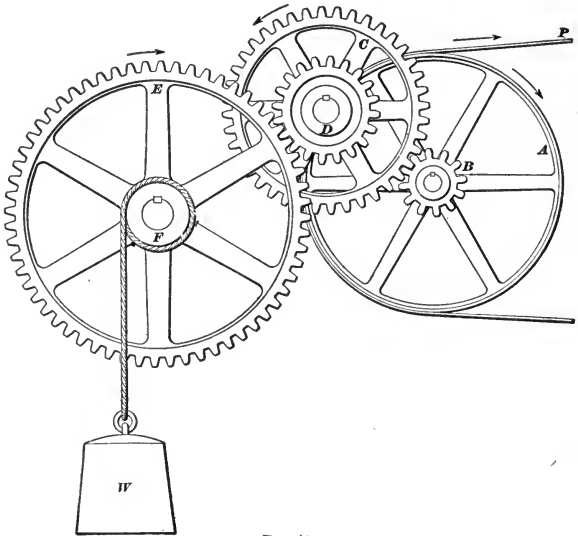

FIG. 19.
**39.** A combination of wheels and axles, as in Fig. 19, is called a train. The wheel in a train to which motion is imparted from a wheel on another shaft, by such means as a belt or gearing, is called the **driven wheel** or **follower**; the wheel that imparts the motion is called the **driver**.
EXAMPLE.—If the radius of the pulley *A*, Fig. 19, is 20 inches, of *C* 15 inches, and of *E* 24 inches, and the radius of the drum *F* is 4 inches, of the pinion *D* 5 inches, and of the pinion *B* 4 inches, how great a weight will a force of 1 pound applied at *P* raise?
EXAMPLE.—The radius of the pulley  $A$ , Fig. 19, is 40 inches and that of  $F$  is 12 inches. The number of teeth in  $B$  is 9, in  $C$  27, in  $D$  12, and in  $E$  36. If the weight to be lifted is 1,800 pounds, how great a force at  $P$  is it necessary to apply to the belt?